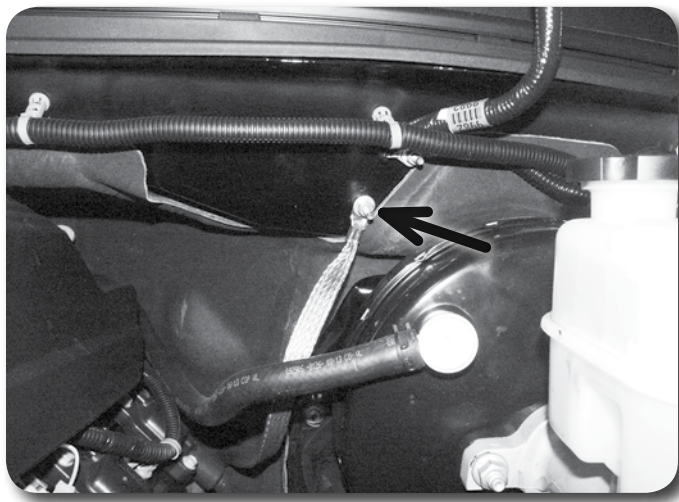

Figure 8
13. Disconnect the ground wire from the driver's side firewall **Figure 8**. Save the mounting nut.